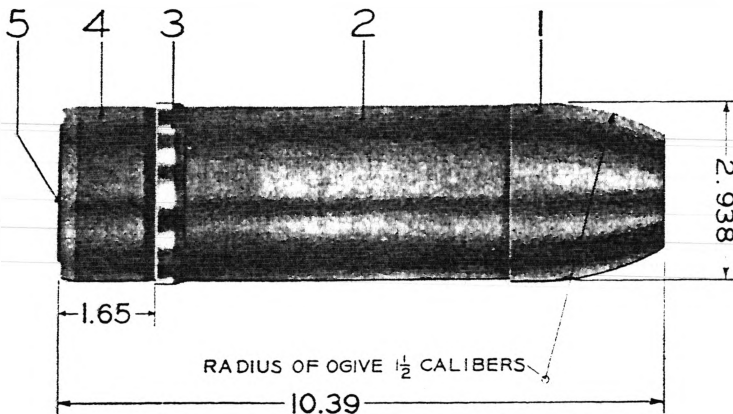

FIG. 2.—High-explosive shell, Mk. I
*c. Painting and marking.*—(1) All projectiles are painted, both as a means of ready identification and as a rust preventive.
(2) Projectiles are also stenciled to show the caliber, lot number, kind of filling, etc.
**8. Common steel or high-explosive shell, Mk. I.—a. Description.**—This design of shell is an adaptation of the French M1900, and represents the older type of shell in use before the Mk. IV shell was developed. Figure 2 shows this shell in detail. It has a rather blunt nose, the radius of which is  $1\frac{1}{2}$  calibers.1 The portion in rear of the rotating band is cylindrical, or straight, in shape, in contradistinction to the Mk. IV shell which is boat-tailed. The explosive charge is about 1.75 pounds of TNT. A few shells are loaded with 50-50 amatol. No more Mk. I shell will be manufactured after the present supply is exhausted. The round containing this shell is marked for identification as shown in Figure 4.